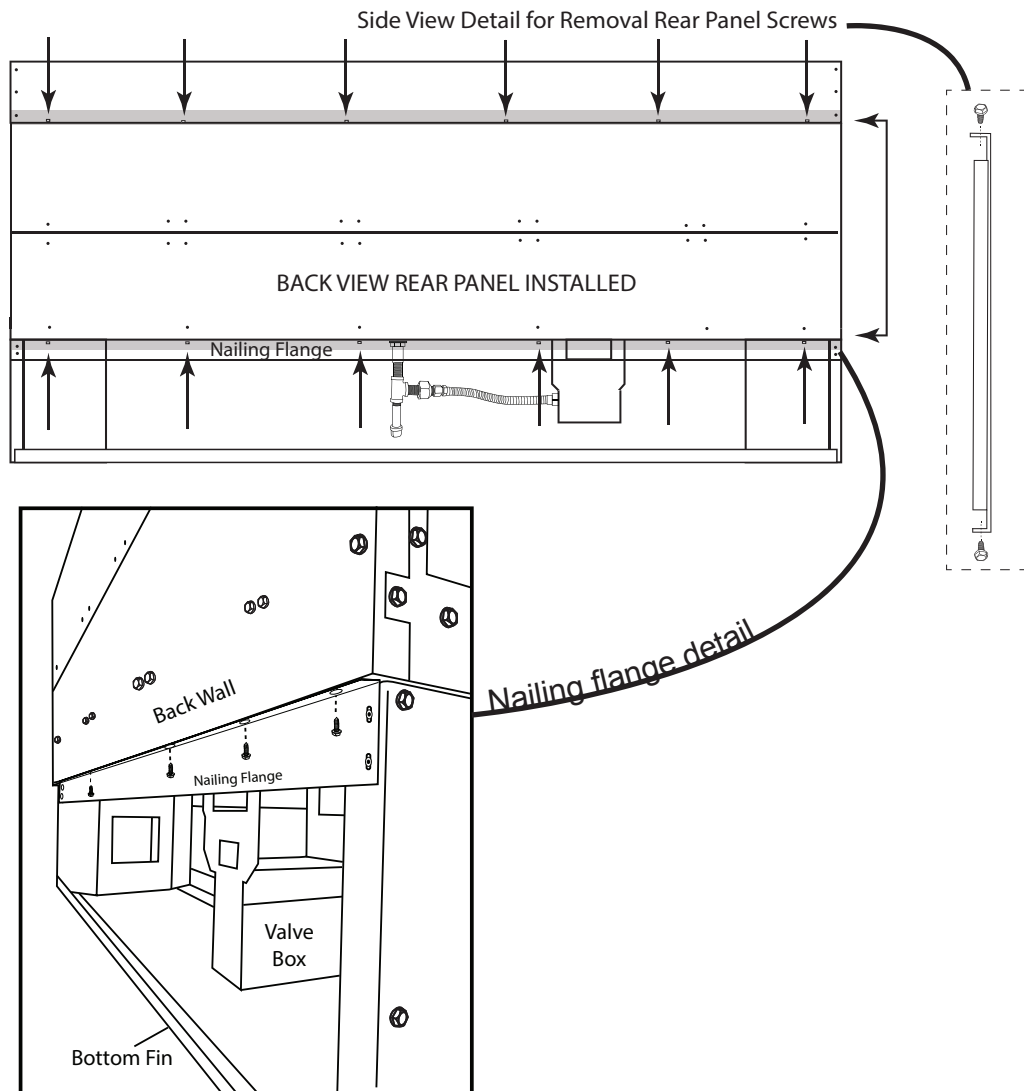

Fig. 8 Removing back wall to convert to see-through model.
Step 1: Look at the back side of the fireplace. Around the outer perimeter area of the back wall are several screws that must be removed (See the shaded area in Fig. 8). Only remove the top and bottom screws on the rear panel. The nailing flange will remain in place. The back wall panel will remain in one piece. **CAUTION:** Watch for sharp edges. **Note:** The numbers of screws to remove will vary with each fireplace model.